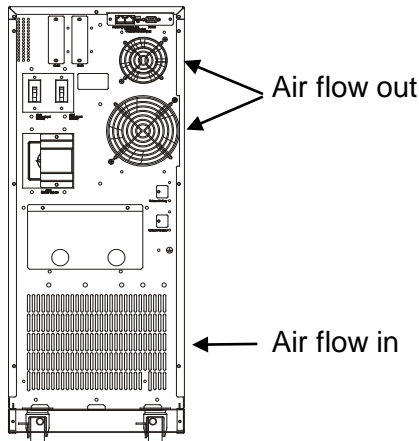

Fig. 2-1
- 2.2.1.1. The design of the air flow of the tower UPS is to flow in from the bottom of the ventilation holes then flow out from the top of the ventilation holes as indicated in Fig. 2-1.